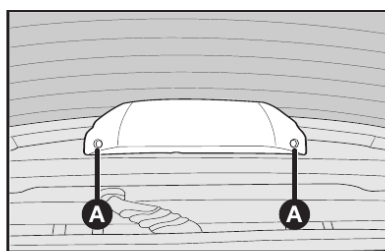

fig. 30
- 1) com a tampa traseira aberta, retirar os parafusos **A-fig. 30** e remover o brake-light;